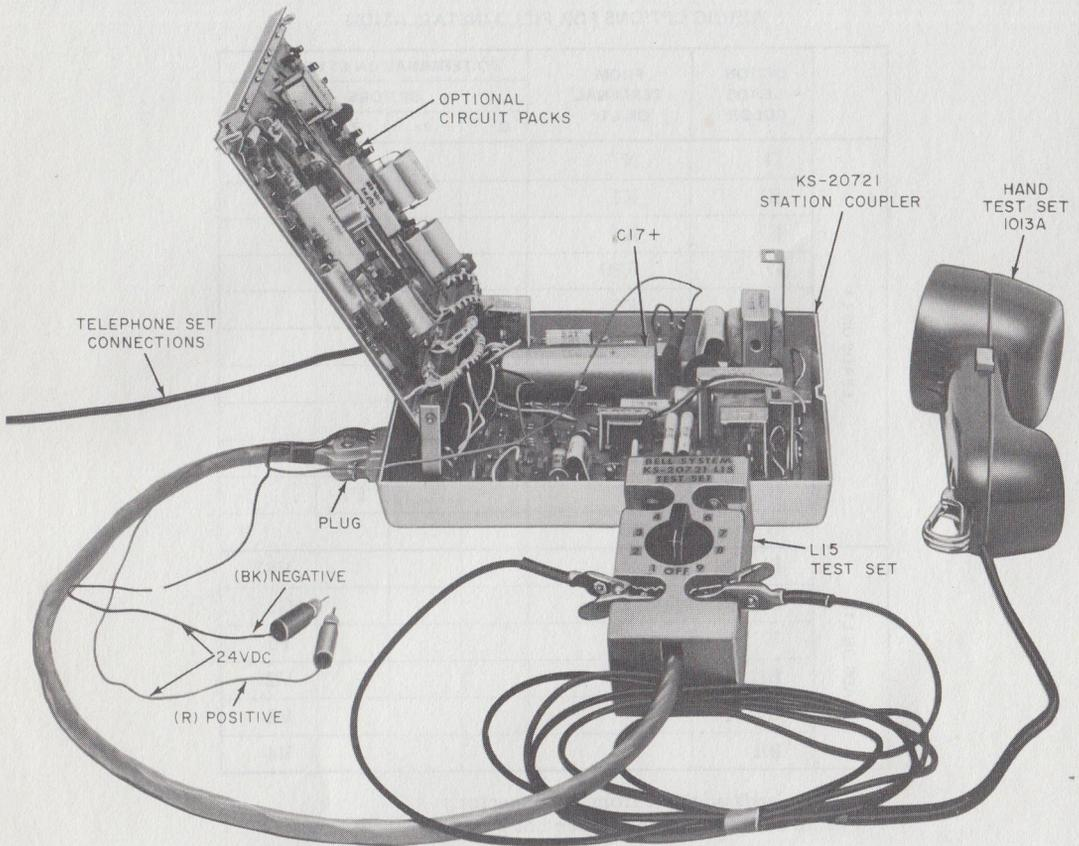

Fig. 5—KS-20721 Station Coupler with KS-20721, List 15 Test Set and 1013A Hand Test Set
- Set, Test, KS-20721, L15 (Fig. 5)
**2.05** The KS-20721, List 15 test set plugs into the connector on the station coupler and is used with a 1013A hand test set (or equivalent) to test the operation of the coupler independent from the CPE (Fig. 5).
**4.04** The List 15 test set (Fig. 5 and 7) used with the 1013A hand test set (or equivalent) and a connecting cable terminated in a plug for connection to the station coupler permits checking of the coupler independent of the CPE.
3	Connect a 1013A (or equivalent) hand test set to terminals provided on test set (Fig. 5).
6	Connect alligator clip on wire coming from the test set plug to the positive (+) terminal of capacitor C17 in the station coupler (Fig. 5).